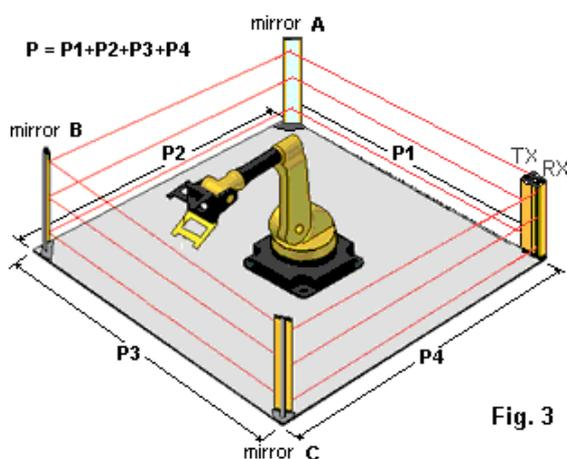
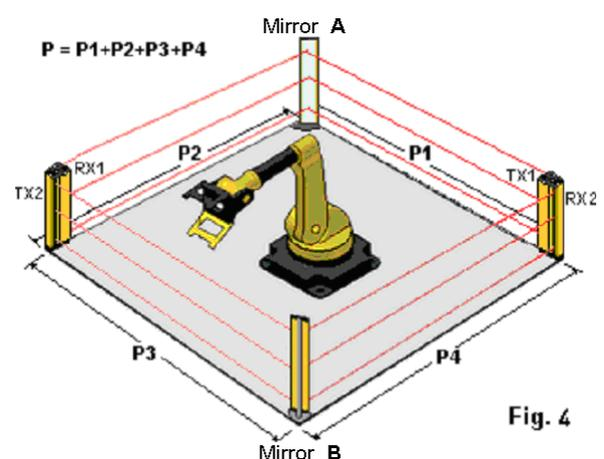

Fig. 3
Fig. 4
- Total protection when the light curtain protects 4 sides with the employ of 3 mirrors as fig. 3. If the perimeter is quite long this solution is not suggested for difficulty of alignment, the best solution is to use 2 barriers and 2 mirrors as shown in fig. 4.